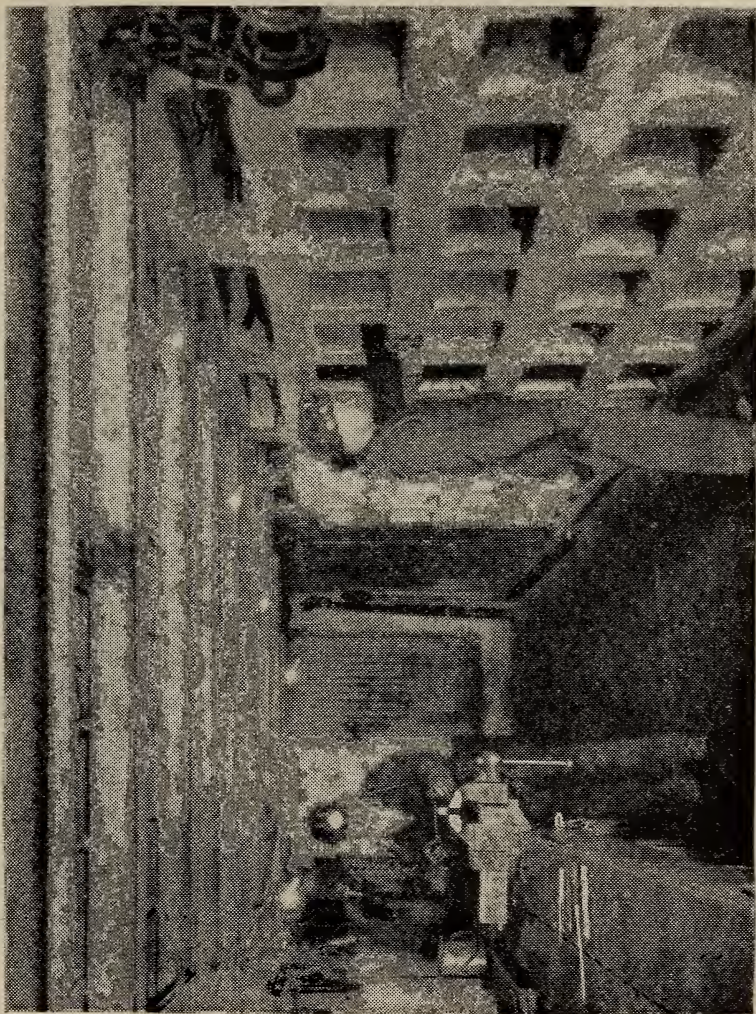

FIGURE 19.—Good housekeeping in repair shops and supply rooms is a necessary safety practice.
- A. Clean, orderly, well-illuminated, and free from anything that may cause tripping and falling. (See fig. 19.)